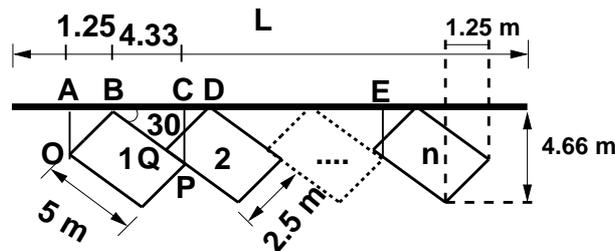

Figure 38:3: Illustration of 30° parking
**Parallel parking:** The vehicles are parked along the length of the road. Here there is no backward movement involved while parking or unparking the vehicle. Hence, it is the most safest parking from the accident perspective. However, it consumes the maximum curb length and therefore only a minimum number of vehicles can be parked for a given kerb length. This method of parking produces least obstruction to the on-going traffic on the road since least road width is used. Parallel parking of cars is shown in figure 38:2. The length available to park  $N$  number of vehicles,  $L = \frac{N}{5.9}$